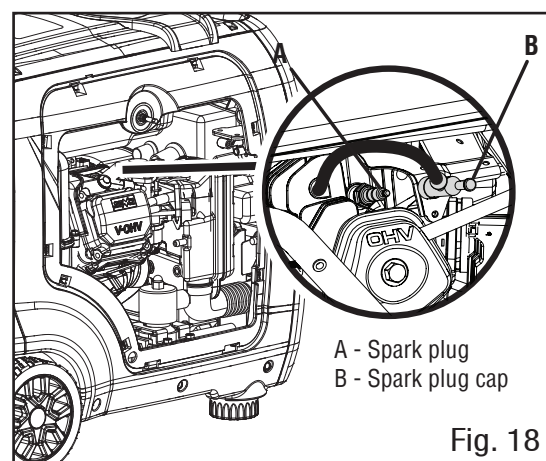

Fig. 18
2. Remove the spark plug cap (Fig. 18).